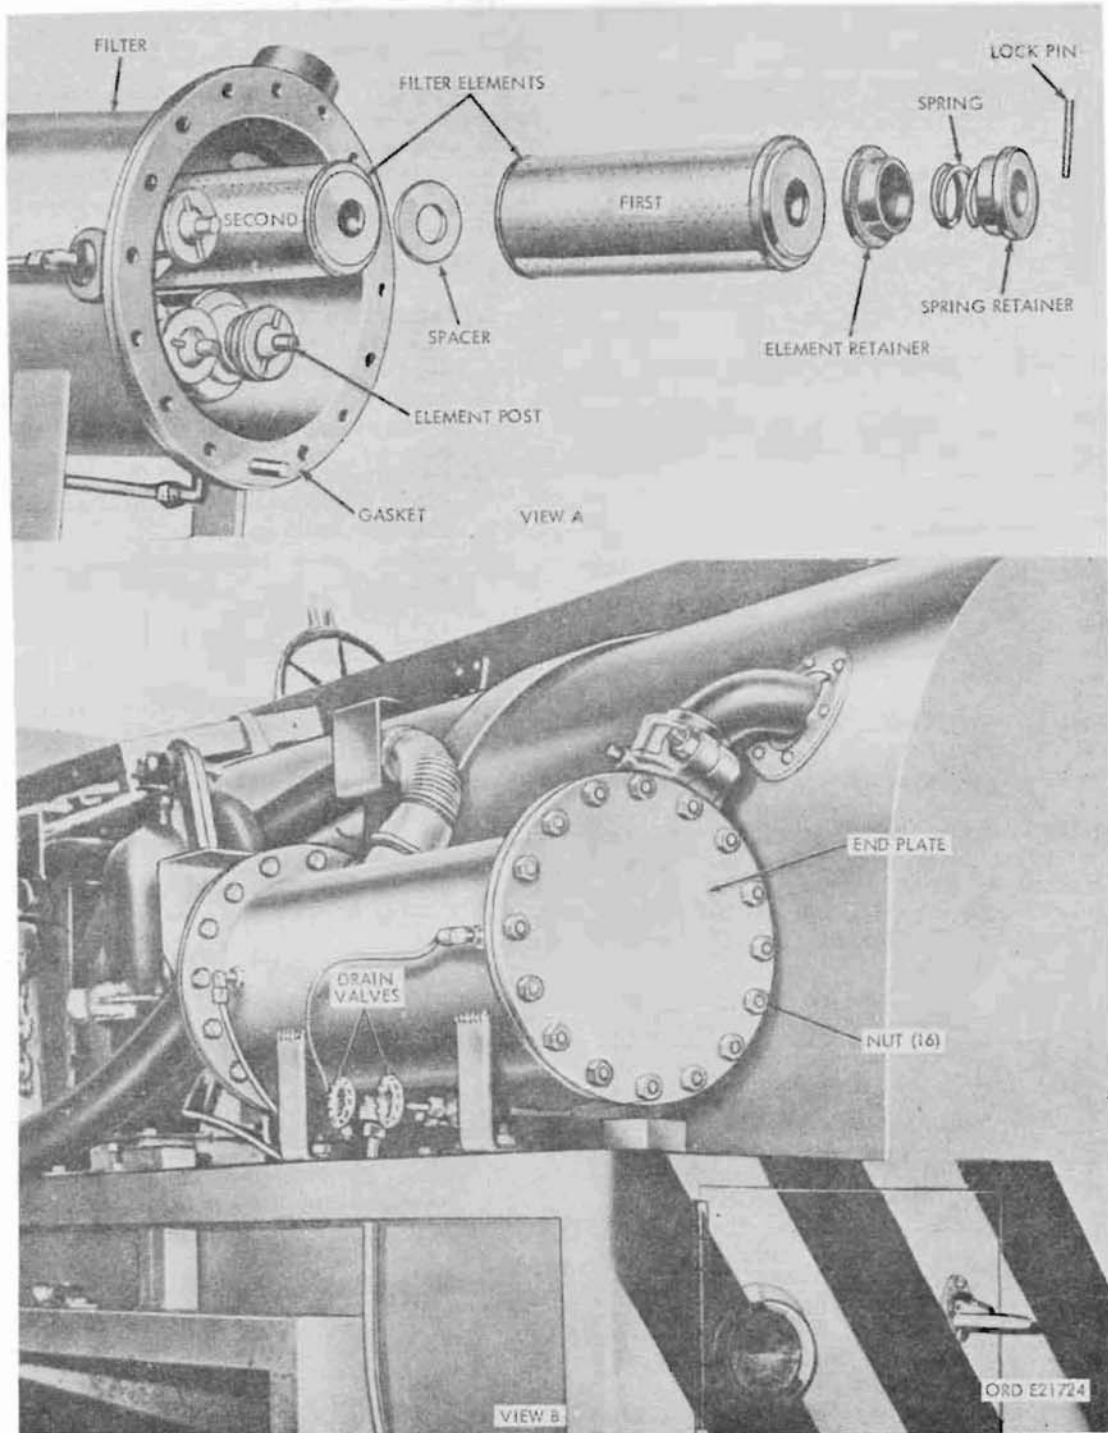

Figure 289. Outboard filter elements
a. Removal (Fig. 289).
- (1) Open both filter drain valves and drain filter assembly.
- (2) Remove 16 nuts, lockwashers and bolts securing rear end plate (fig. 289, View B) of filter assembly and remove end plate.
- (3) Compress spring retainer and remove lockpin (fig. 289, View A). Remove spring retainer, first element, element spacer, and second element on each of the four banks. Discard the eight filter elements.
- (1) Install two new filter elements on each of the four element banks. Place filter element retainer, spring, and spring retainer on each element post (fig. 289, View A). Compress spring retainer and install lockpin.
- (2) Install filter end plate, using a new gasket. Secure end plate (fig. 289, View B) with 16 bolts, lockwashers, and nuts and tighten nuts to 25 pound-feet torque.
- (3) Close filter drain valves.